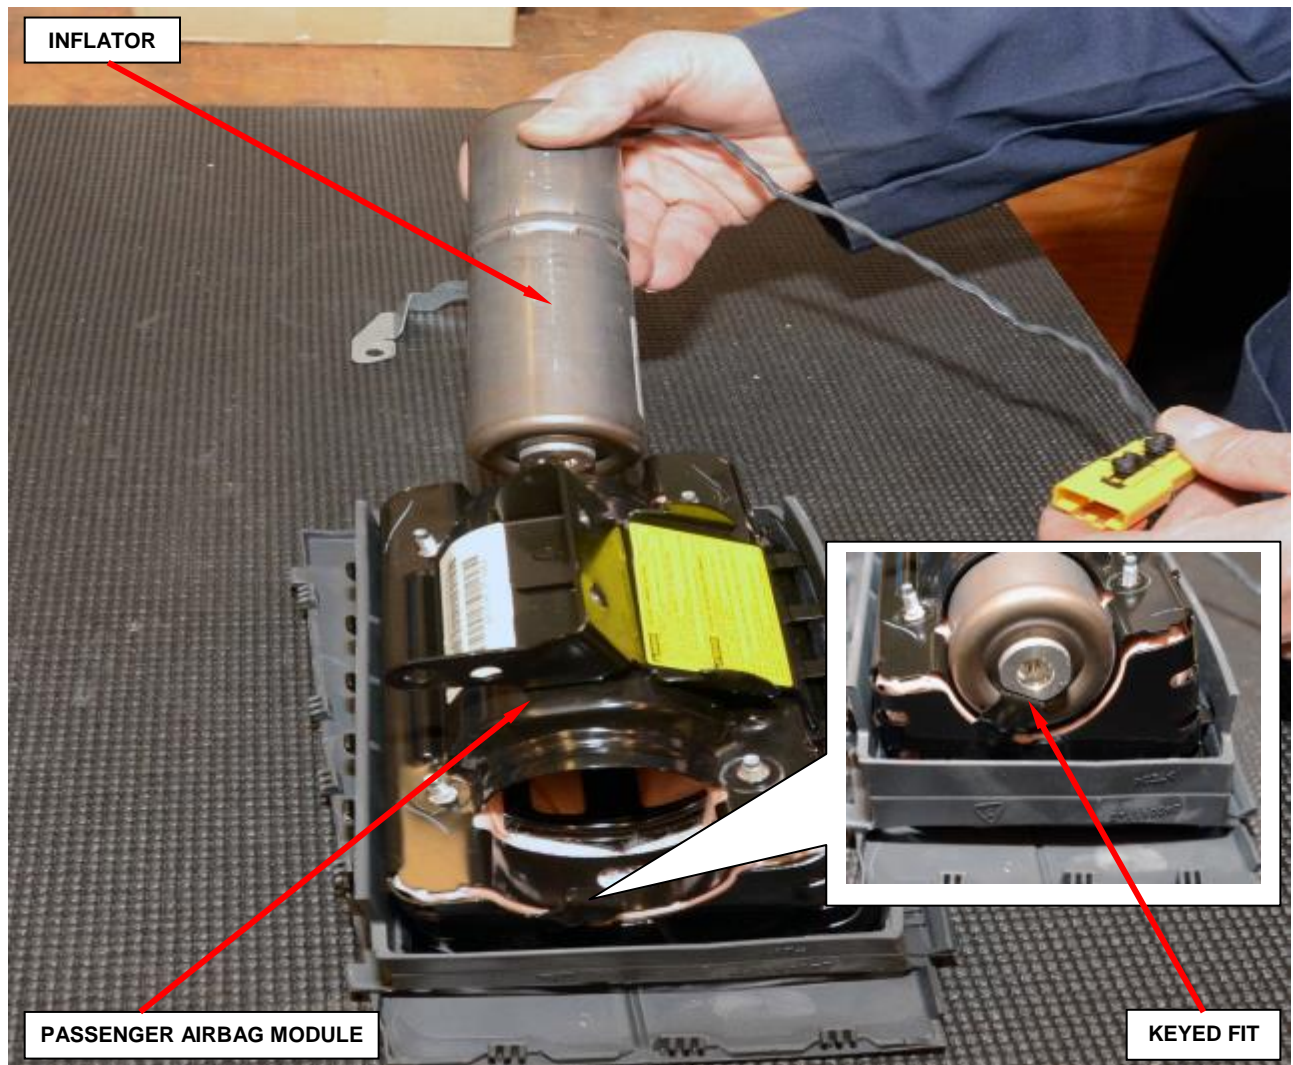

Figure 98 – Passenger Inflator Installation
g. Slide the new inflator into the passenger airbag module (Figure 98).
NOTE: The inflator is keyed to fit into the housing (Figure 98).